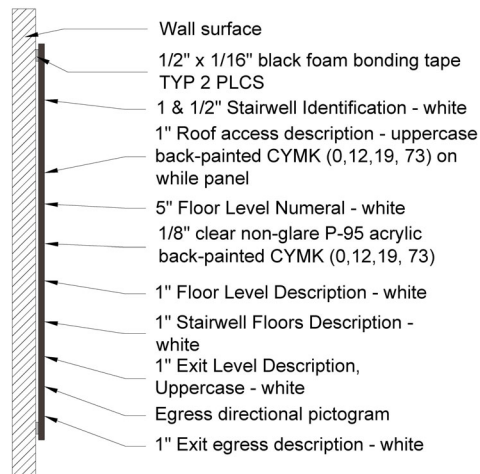

Figure 21.7
- 21.7. UMD E3 sign cross section shall comply with figure 21.7